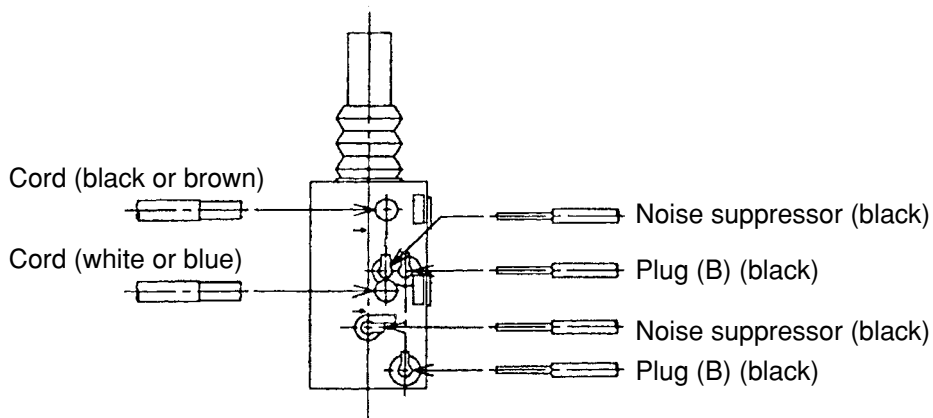

Fig. 14
Insert each cord into the terminal 1 ↑ and terminal 2 ↑ of the speed control switch as shown in Fig. 14 and tighten the screw [tightening torque: 0.6 ± 0.2 N·m (6 ± 2 kg·cm)]. Insert each lead wire (black) coming from plug (B) into the terminals M1 and M2. Insert each lead wire (black) coming from the noise suppressor into the terminals C1 and C2. After insertion, pull each lead wire slightly to check the lead wires do not come off. To disconnect the lead wires, insert a small flatblade screwdriver into the slots near the terminals and pull out the lead wires (Fig. 14).